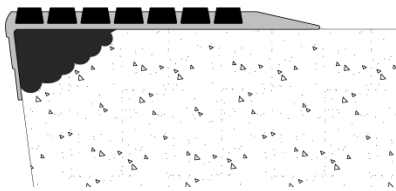

Figure 1
- In areas where concrete is dished or spalling, apply a quick-setting, self-leveling compound. If wood tread is rotted, replace (*figures 1 and 2*).
6. Place back into position, aligning nose flush to end of tread (*figures 1 and 2*).